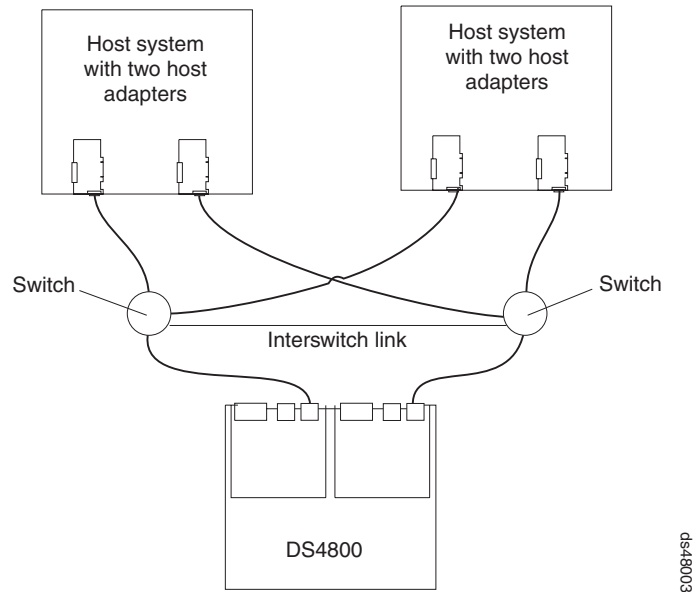

Figure 67. Example of a single SAN fabric configuration
- Single SAN fabric configuration, as shown in Figure 67 on page 95
In Figure 67 on page 95, gives an example of two host systems, with fibre channel switches connected by an interswitch link, forming a single SAN fabric configuration.
Table 31. Description of Figure 67